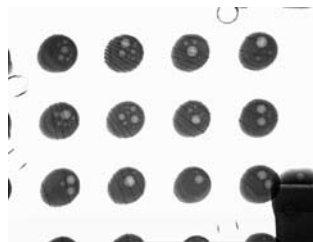

Figure 3. Voiding
- 3) Voiding – voiding can be assessed by viewing an overall 2D image of the solder joints. Some voiding is expected but excessive voiding points to a process related issue. See Figure 3.